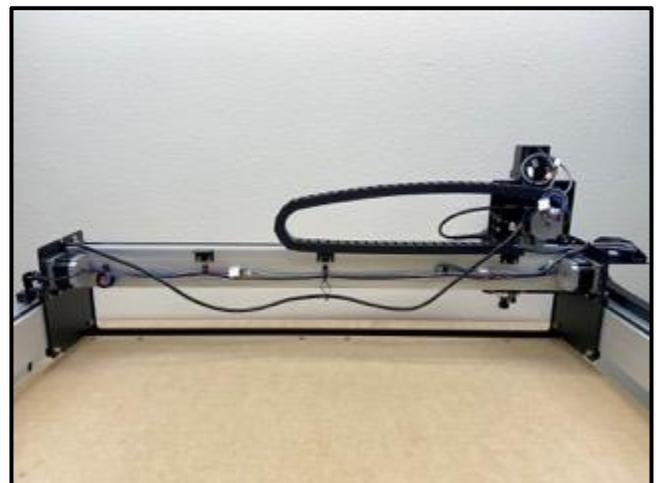

Figure 10-10
11. Trim the ends of all the remaining cable ties. See **Figure 10-10**.